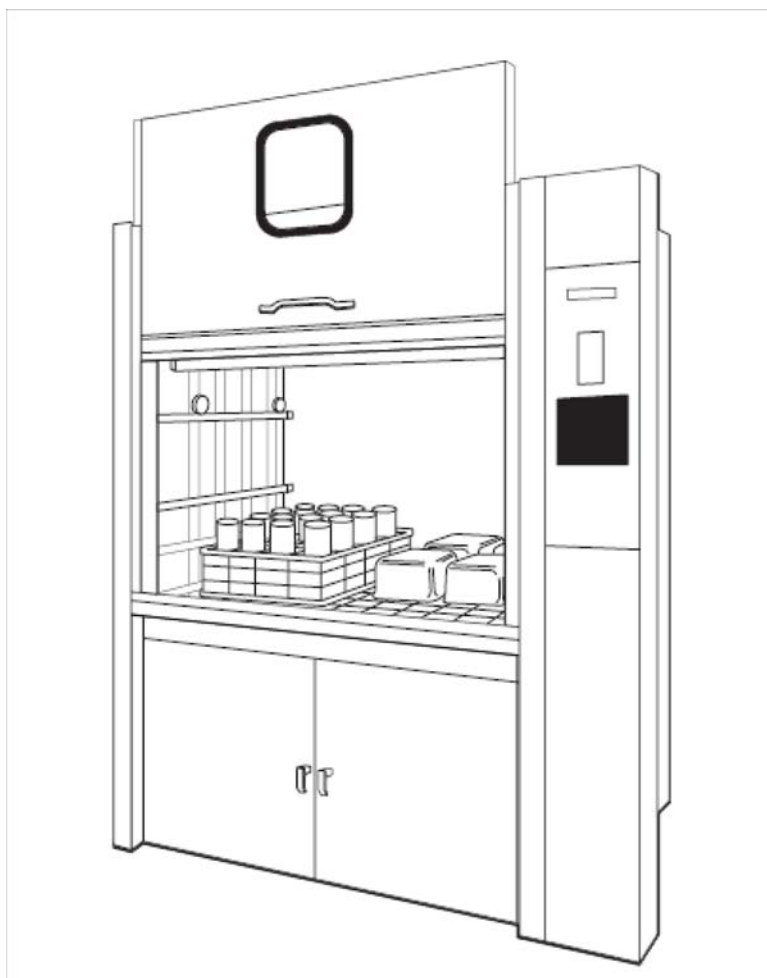

Figure 4-2. Loading Washer
1. Open chamber door and load wash chamber (see Figure 4-2). Ensure all cages, bottles, etc. are correctly positioned on load grating or in an accessory rack.